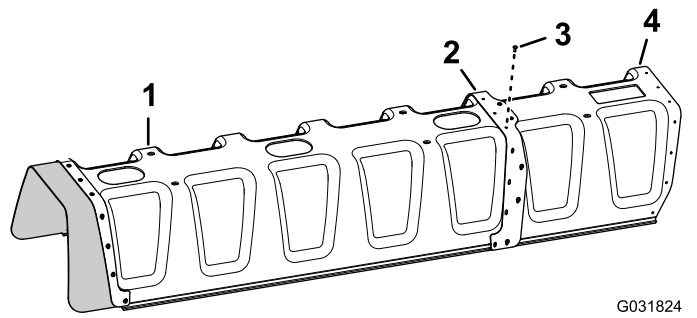

Figure 181
- Secure the cover extension to the 11-nozzle section cover (Figure 181) with 11 pop rivets (Toro Part No. 114439).